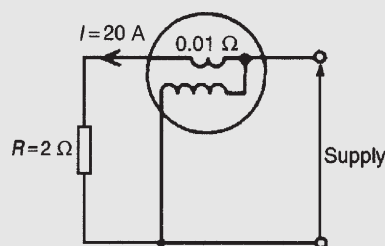

Figure 10.13
connected as shown in Fig. 10.13. Determine the wattmeter reading.
2. (a) A current of 15 A flows through a load having a resistance of 4Ω . Determine the power dissipated in the load. (b) A wattmeter, whose current coil has a resistance of 0.02Ω , is connected (as shown in Fig. 10.13) to measure the power in the load. Determine the wattmeter reading assuming the current in the load is still 15 A.